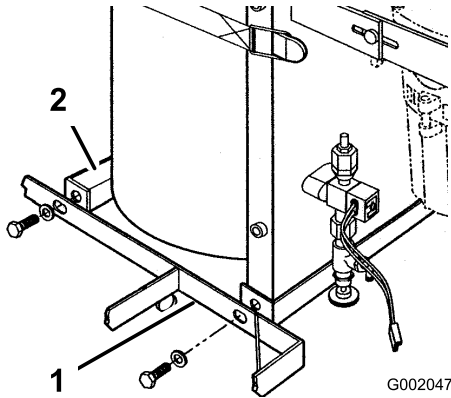

Figure 7
- Mount the tank/compressor assembly to the right step frame using 2 bolts (3/8 x 1 inch) and 2 flat washers (Figure 7).